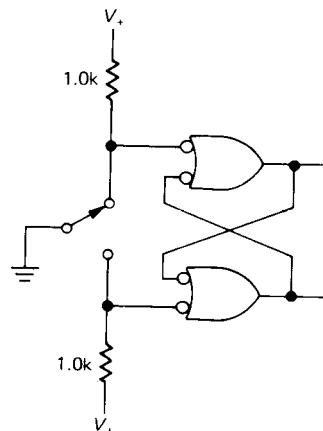

Figure 9.8. Switch debouncer: SR flip-flop.
1. Use a pair of gates to make a jam-type SR flip-flop. Use pullups at the inputs to the debouncer, of course (Fig. 9.8). You could use a flip-flop with SET and CLEAR inputs instead (e.g., a '74); in that case, ground the clocking input.